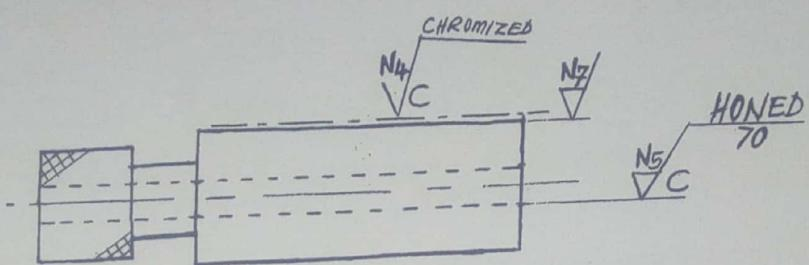

Figure 26
- 2.1 Figure 26 shows a machine component to be manufactured. Briefly explain the meaning of each symbol /term. (10 marks)